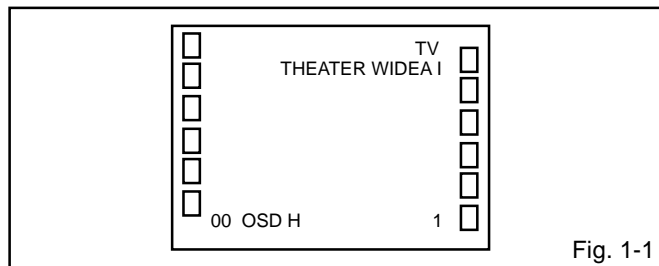

Fig. 1-1
Press the VOL. DOWN button on the set and the Channel button **(9)** on the remote control for more than 2 seconds to appear the adjustment mode on the screen as shown in **Fig. 1-1**.
4. Activate the adjustment mode display of **Fig. 1-1** and press the channel button **(01)** on the remote control to select "CUT OFF".
4. Activate the adjustment mode display of **Fig. 1-1** and press the channel button **(24)** on the remote control to select "R.BIAS".
6. Adjust the VOL. UP/DOWN button on the remote control to whiten the R.BIAS(C), G.BIAS(C), B.BIAS(C), R/G.DRV(C), B/R.DRV(C), R.BIAS(W), G.BIAS(W), B.BIAS(W), R/G.DRV(W) and B/R.DRV(W)" at each step tone sections equally.
3. Activate the adjustment mode display of **Fig. 1-1** and press the channel button **(00)** on the remote control to select "OSD H".
6. Activate the adjustment mode display of **Fig. 1-1** and press the channel button **(02)** on the remote control to select "H.POSI".
9. Activate the adjustment mode display of **Fig. 1-1** and press the channel button **(04)** on the remote control to select "H. SIZE".